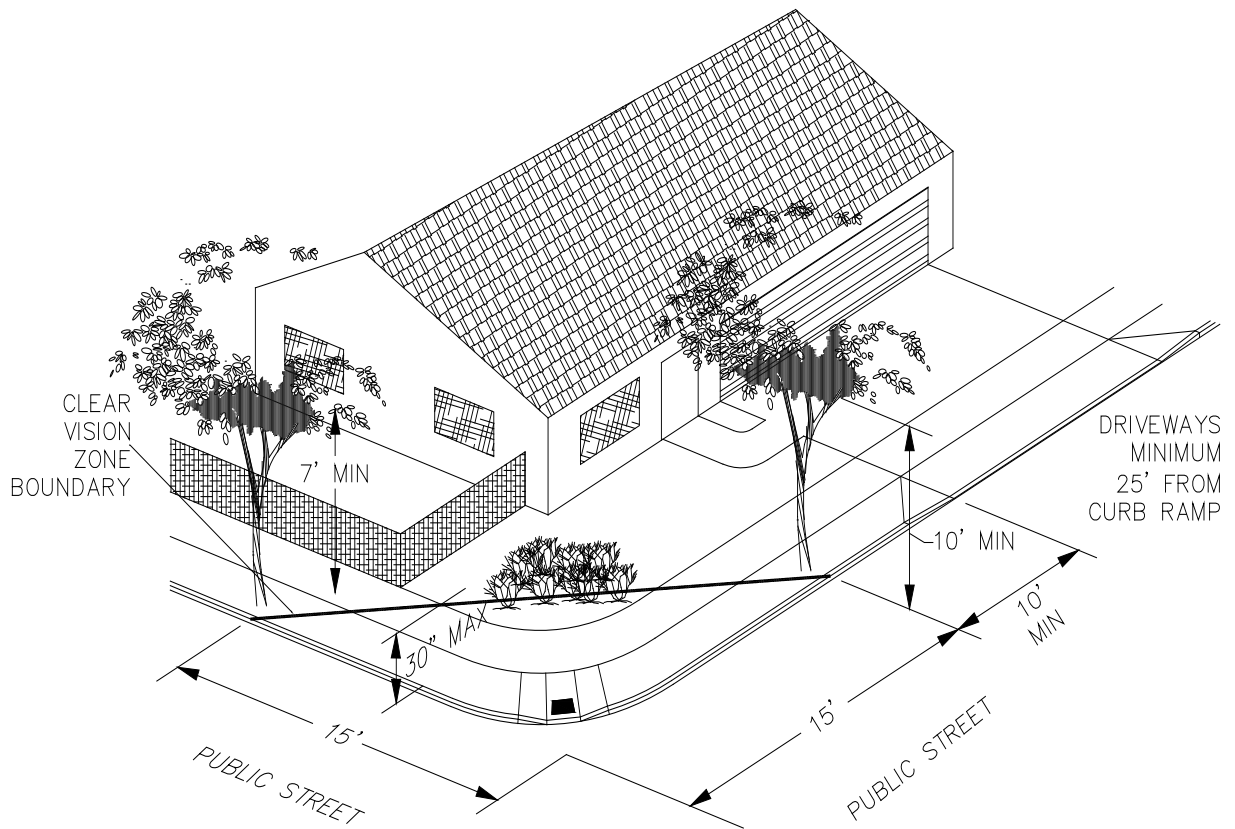

Figure 3-1
- c. A clear vision zone shall be provided at all intersections as shown in Figure 3-1 below:
No fence, berm, wall, vehicle, hedge or other planting or structure shall be placed within the clear vision zone that would impede visibility between the height of 30 inches and 10 feet as measured from the top of curb, or in the absence of curb, from the established street centerline elevation. Poles, tree trunks, and similar objects less than 12 inches in width may be allowed in the clear vision zone if they meet the vertical requirements noted above and shown in Figure 3-1.